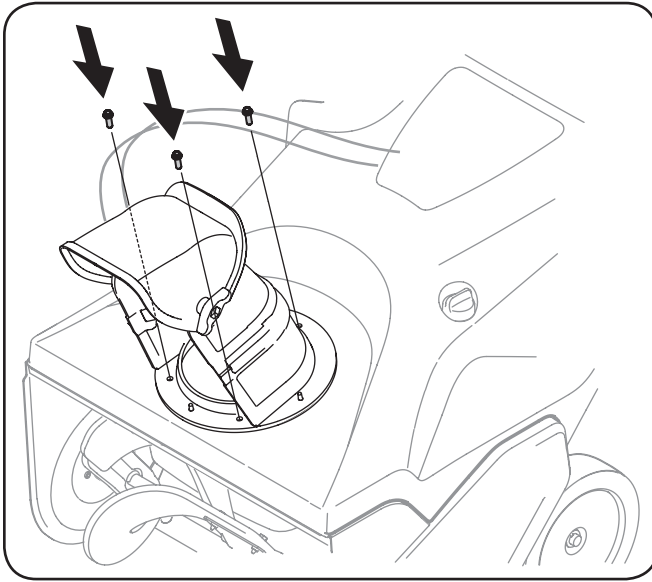

Figure 3-6
3. Align the holes in the chute base with the holes in the lower chute and secure with the previously removed hex washer screws. See Figure 3-6.